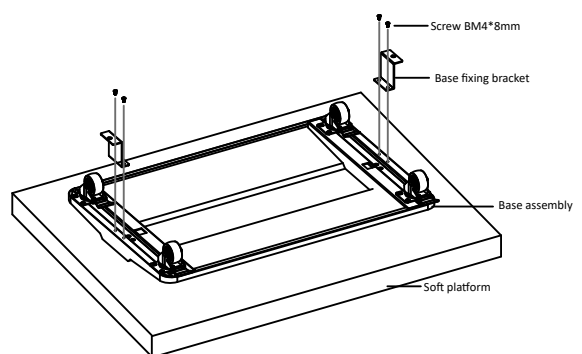

Figure 2
Step3 After the casters are installed, take out two base fixing brackets and install them on the base. Each bracket is tightened and fixed with 2pcs of BM4x8 screws(As shown in Figure 2)